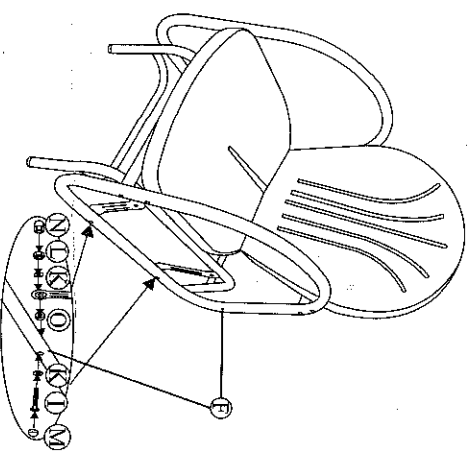

Figure 3
Step 4: Place the glider seat assembly over the glider base/glider bracket assembly. Attach glider seat assembly to the other end of each of the glider brackets using 1/4" x 50 mm bolts(I), 6.5 x 1.0 mm washers(K), 6.5 x 6 plastic washers(O), and 1/4" nuts as shown in *Figure 3*. Note the exact order of assembled parts from outside in ward) bolt(I)-washer(K)-glider bracket-plastic washer(O)-glider base (C)-washer(K)-nut(L). Tighten using hex wrench(P) and hex bolt driver(Q). **Do not over tighten.** Repeat on opposite side. Cover nuts and bolts with covers (M&N).